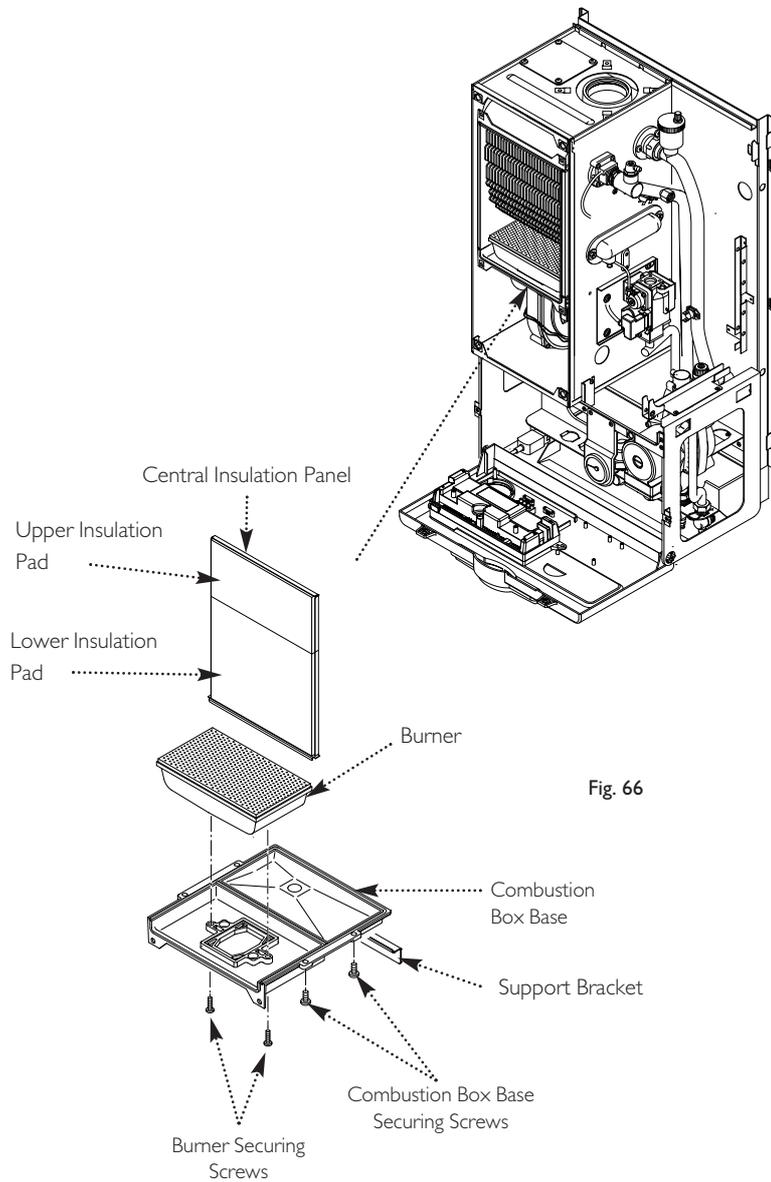

Fig. 66
13.20 Heat Exchanger Lower Insulation Pad (Fig. 66)
13.21 Heat Exchanger Upper Insulation Pad (Fig. 66)